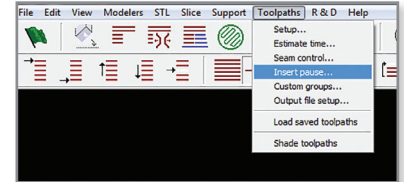

Figure 3: The Insert Pause command is found in the Toolpaths menu.
**STEP 5:** If the model will only be a single color, proceed to Step 7. Otherwise, in the **Toolpaths** menu drop-down, select **Insert Pause** (Figure 3).